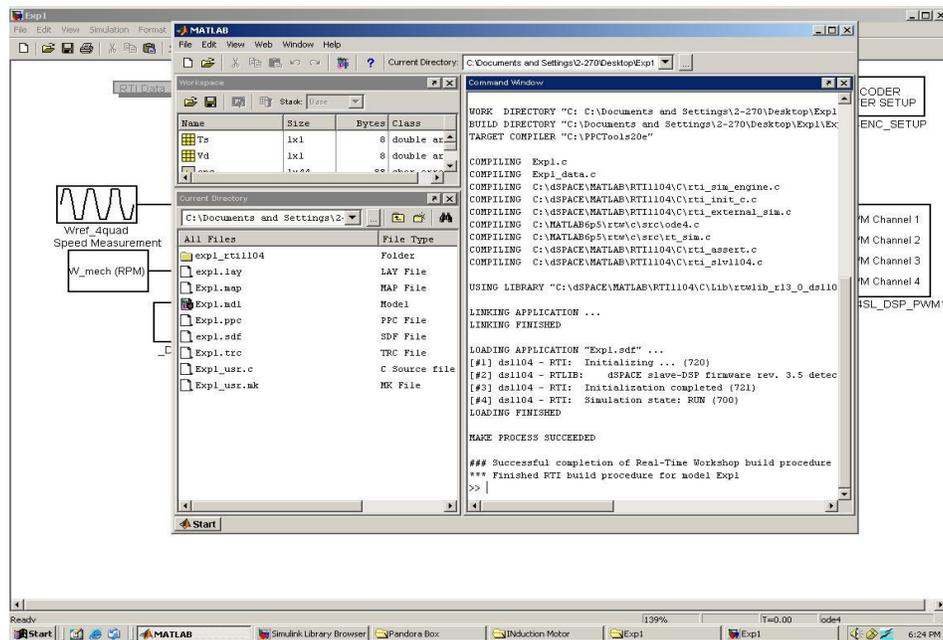

Figure 1.6: Building the Simulink program, real-time implementation
- Type $V_d=42$ and $T_s=1e-4$ in the Matlab prompt. Press CTRL+B to build the **control-system** in real-time now. Refer to Fig 1.6, note the sequence: 1) Compilation of C-code that is generated by Simulink, which will be used to implement **control-system** in hardware DS1104, 2) Generation of Exp1.sdf file, which will be used later on by Control-desk, to access the variables of **control-system**.